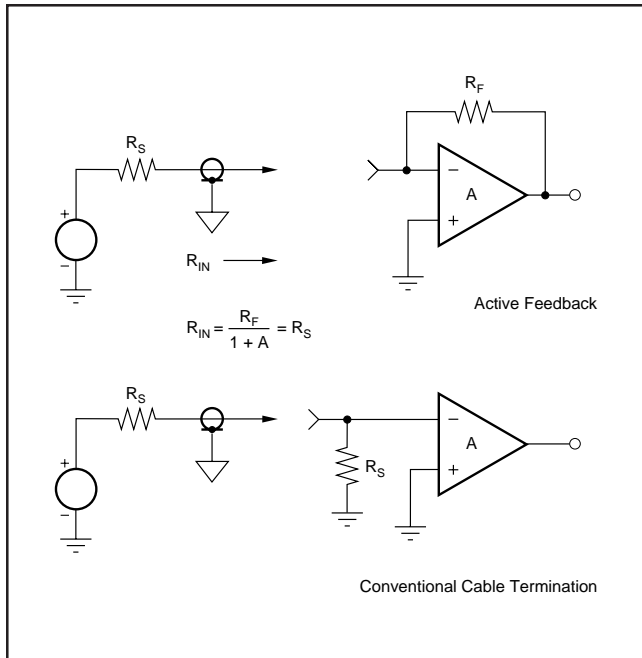

FIGURE 5. Configurations for Active Feedback and Conventional Cable Termination.
Figure 5 shows an amplifier using active feedback. This diagram appears very similar to a traditional inverting amplifier. However, the analysis is somewhat different because the gain “A” in this case is not a very large open-loop op amp gain; rather it is the relatively low and controlled gain of the LNP itself. Thus, the impedance at the inverting amplifier terminal will be reduced by a finite amount, as given in the familiar relationship of Equation (3):